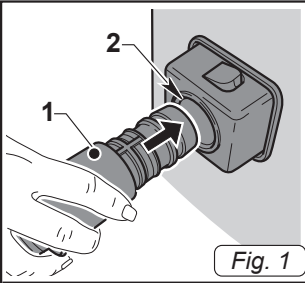

Fig. 1
- Insert, as far as possible, the sleeve (1 Fig. 1) of the suction hose into the nozzle (2 Fig. 1) on the drum.